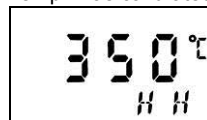

Fig 14
- 3.2. When "CALI" status display "H" or "HH" (see Fig 14.),it means "Real Temp." has calibrated and increase temperature.